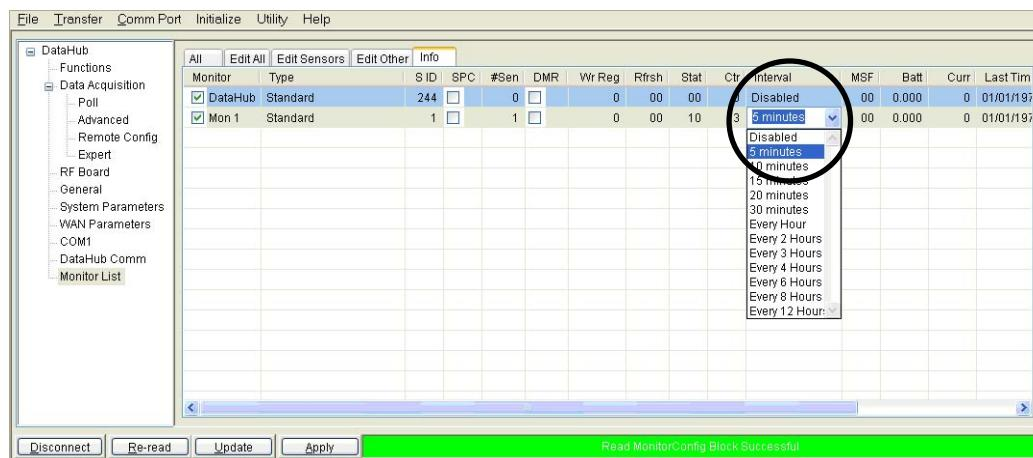

Fig. 7.9: Set Polling Interval
7.19 Change **Interval** number to desired polling interval level (i.e. 5 minutes). Fig 7.9